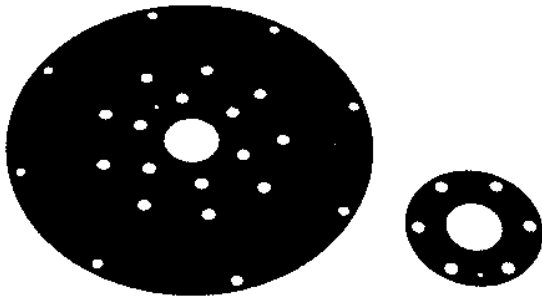
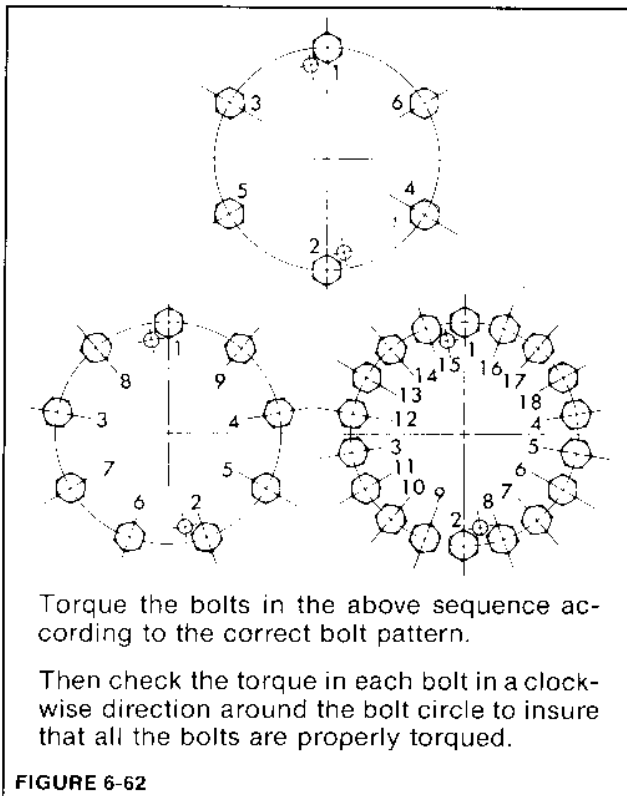

FIGURE 6-61
FIGURE 6-62
4. a. For single bearing generators, insert a guide stud into the drive hub. Position all spacers (if any), then all drive discs, one at a time until all discs are installed. (Figure 6-61.) Make sure that all disc mounting holes at the inner and outer diameter are properly aligned. Secure the discs with the grade 8 5/8-18 capscrews and hardened washers. Torque to 192 ft-lb (260 N-m). (See Figure 6-62 for torquing sequence.)